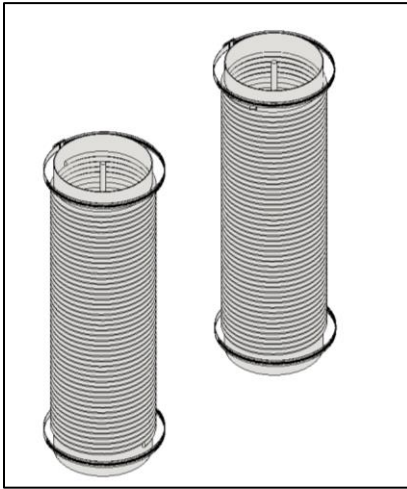

Figure 3-28: CAC8 Ducts with Worm Gear Clamps
5. Insert a worm gear clamp on each end of the ducts (Figure 3-28).